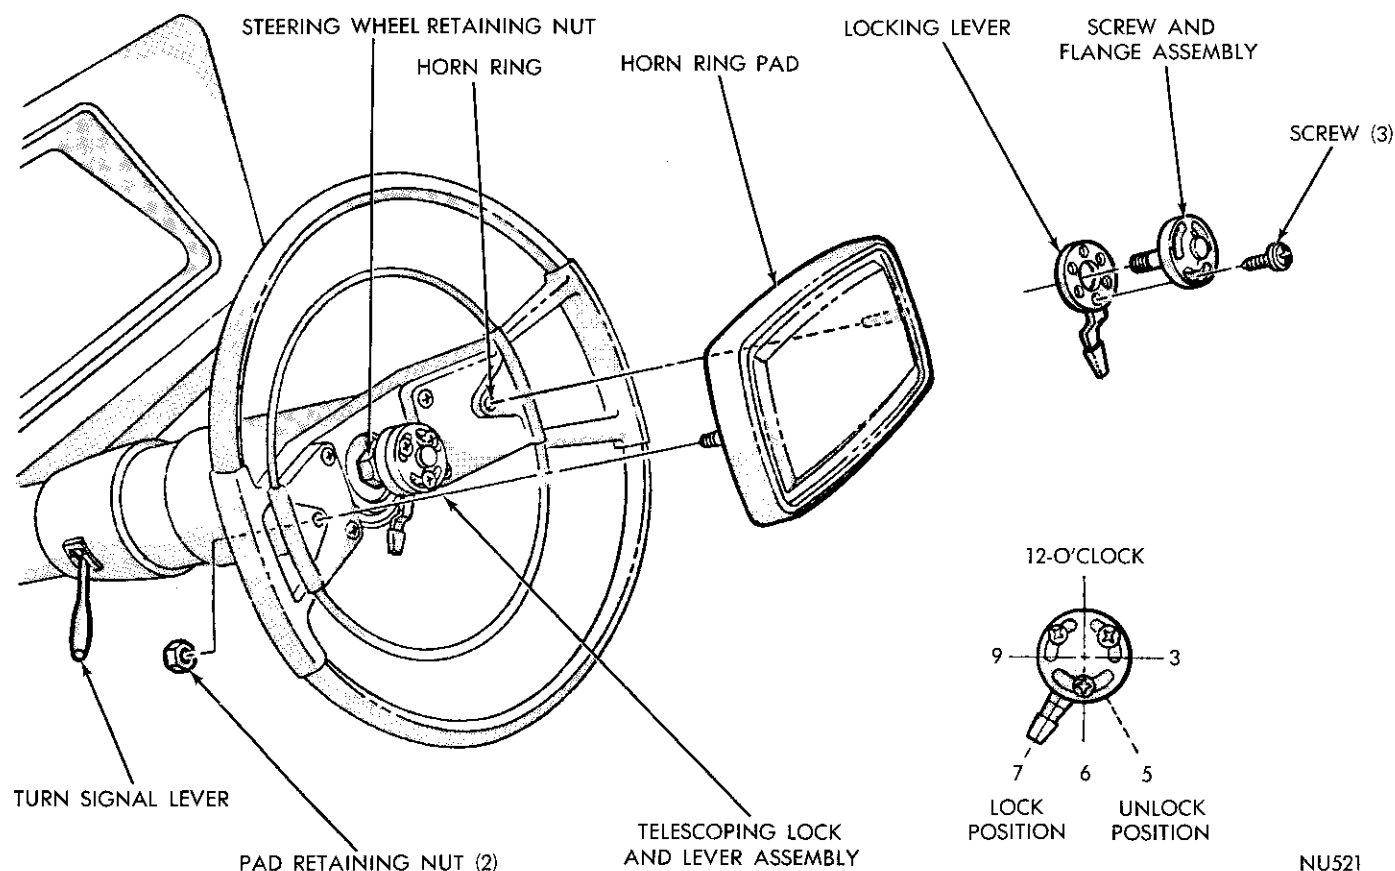

Fig. 12—Telescoping Steering Wheel—Locking Mechanism
STEERING WHEEL (Figs. 12 and 13)
(2) With steering wheel in normal position place locking lever on steering shaft and tighten screw and flange assembly to 45 inch-pounds to lock telescoping action.
(3) Attach locking lever finger tight to flange with 3 screws (Fig. 12).
(4) Position lever in lock (7 o'clock) position and tighten screws to 24 inch-pounds.
(5) Check operation of telescoping mechanism as follows: